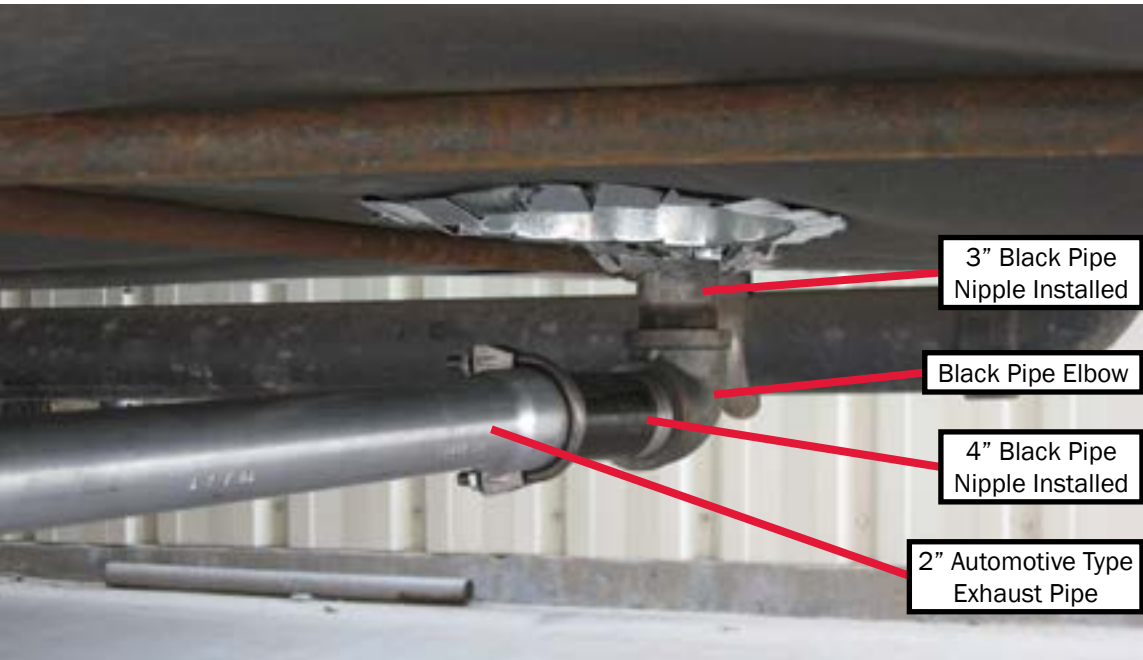

Figure 18
- Use standard 2" automotive-type exhaust piping and avoid bends, if possible. A minimum 1.75" ID automotive-type exhaust pipe may be used. See Figure 15 & Figure 18.
- Do not use galvanized pipe fittings (only black-iron pipe and fittings should be used). Reference Figure 18.